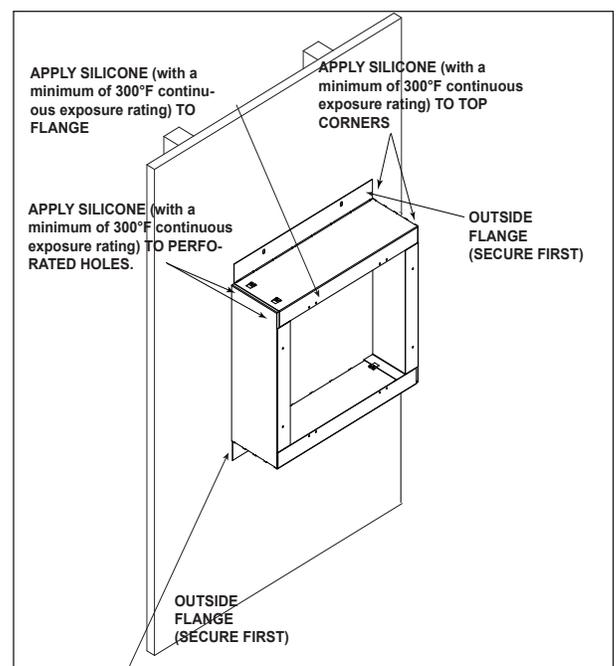

Figure 3.19 PLVP-BEK Attached to Wall
13. Place assembled box over the framed opening in the wall with outside flanges oriented vertically and held tight to the building exterior. See Figure 3.19.
14. Drive two of the supplied screws through opposite ends of the two outer flanges. This will secure the PVLP-BEK extension box to the building and allow for squaring of the PVLP-BEK. See Figure 3.19.